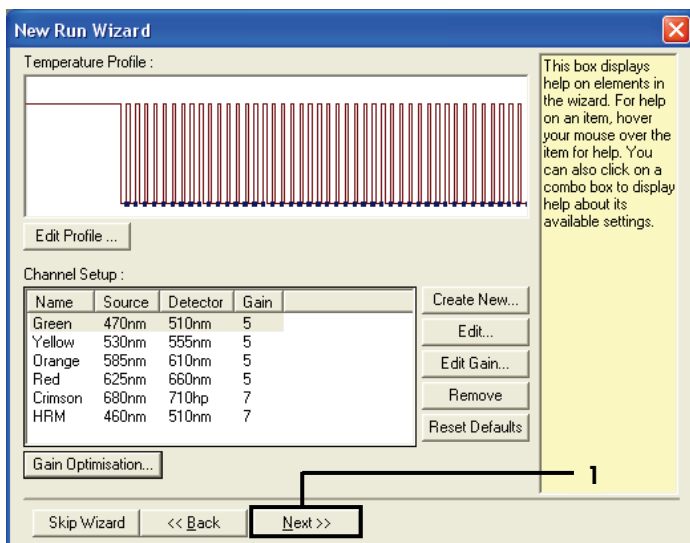

Figure 35. The “New Run Wizard” dialog box and temperature editing screen (1 = “Next”).
4. Click **Next** (Figure 35).